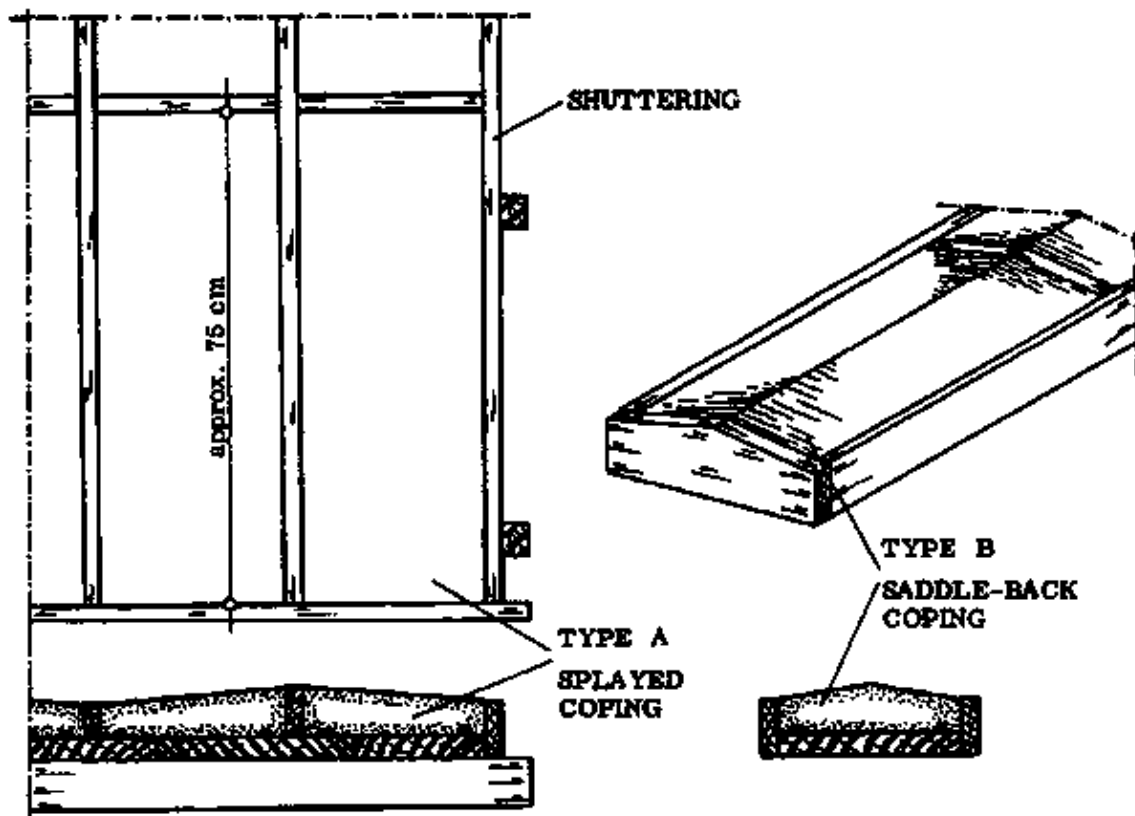

Fig. 2
– CONCRETE COPINGS OR CAPPINGS: These are of various shapes, with or without reinforcement (Fig. 2).